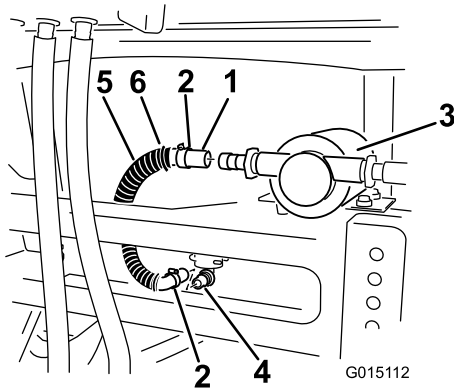

Figure 24
3. Install one end of the hose to the 90 degree fitting at the bottom of the rinse tank (Figure 24).
10. Install the cover over the pump and insert cover tabs into slots in frame member (Figure 24).